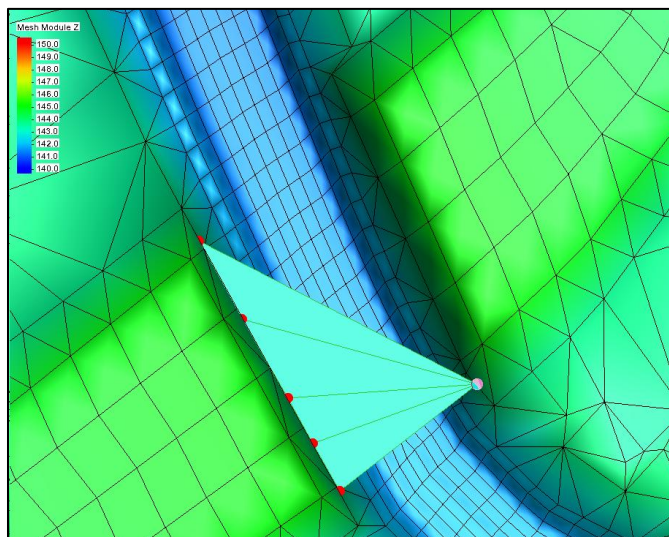

Figure 4 Point on right bank of channel
7. Click a point on the right back of the channel (Figure 4).